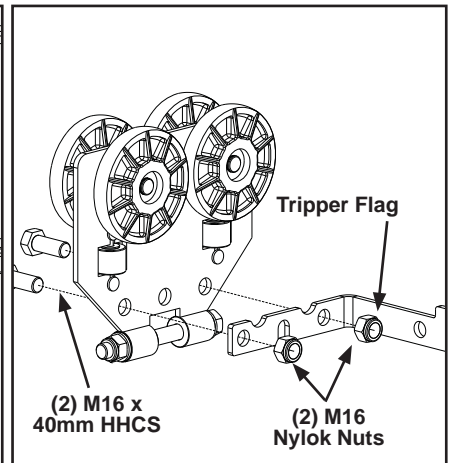

Figure 3-136
- Step 3. Secure tripper flag bracket to trolley by inserting two (2) M16x40mm HHCS through trolley bolt hole pattern and tripper flag bolt hole pattern. **Tighten until bolts are snug + 1/4 turn.** Do not over tighten. Over tightening could cause bracket to bend. See Figure 3-136.